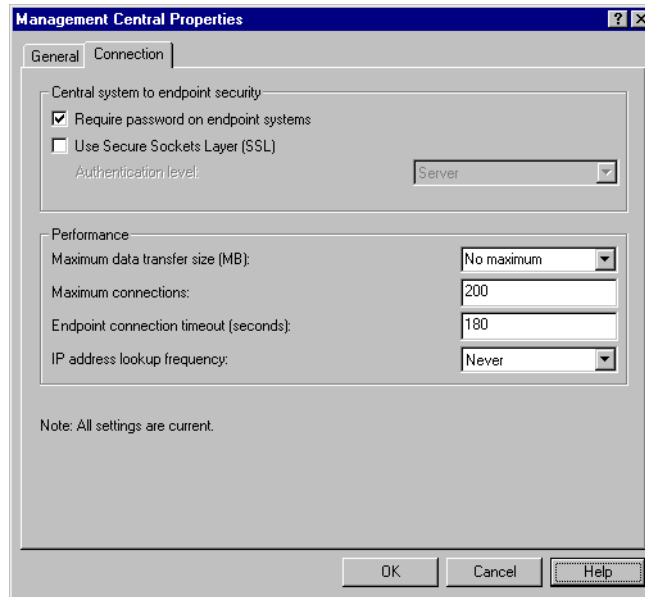

Figure 170. Management Central properties (connection)
2. Click the **Connection** tab. You can see the window as shown in Figure 170 on page 202.
2. Click the **Connection** tab. The window as shown in Figure 170 on page 202 appears.